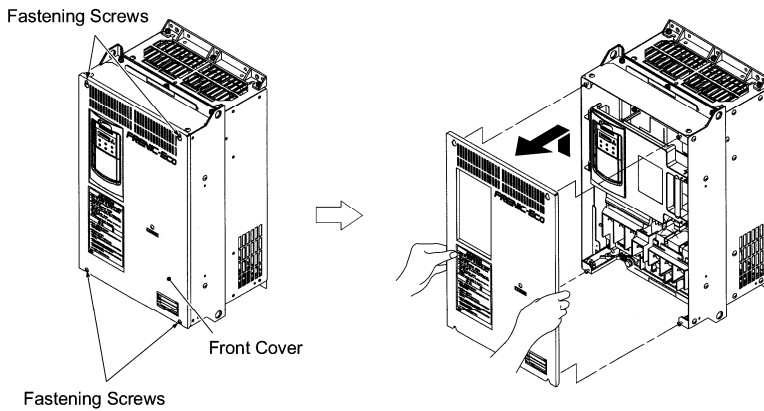

Figure 2.8 Removing the Front Cover (FRN37F1S-2□)*
(2) For inverters with a capacity of 37 kW to 160 kW
- ① To remove the front cover, loosen the four fastening screws on it, hold it with both hands, and slide it upward. (Refer to Figure 2.8.)
- ② Put the front cover back in reverse order of the ①. Make sure to properly match the position of the screw holes on both of the front cover and inverter case.